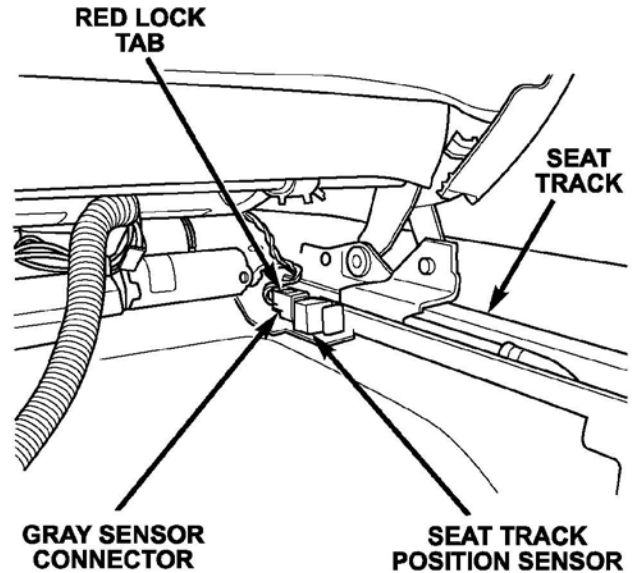

Figure 1 – Backside of Driver’s Seat View
4. **For four door models**, locate the seat track position sensor on the seat track. Slide the red lock tab forward on the gray electrical connector (Figure 1).